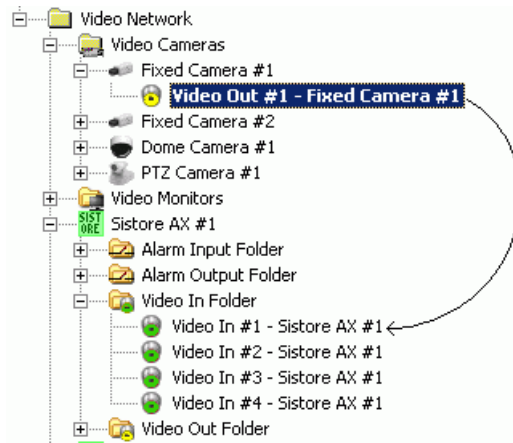

Fig 21 Connecting cameras to SISTORE
6. Drag and drop the **Video Out** signal to the SISTORE **Video In** node (Fig 21).